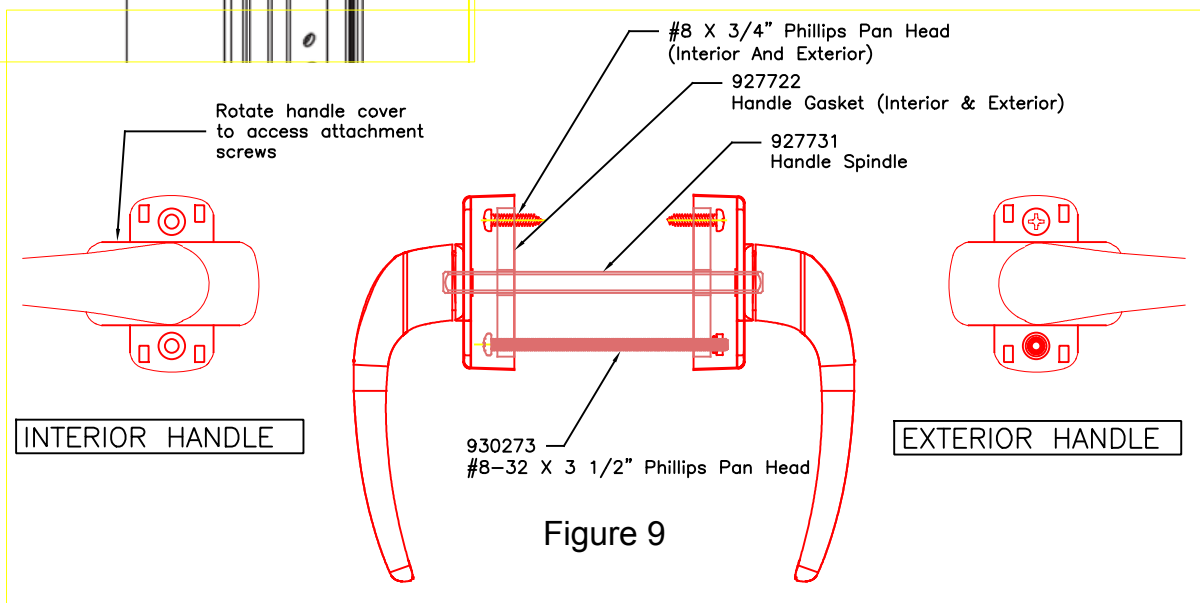

Figure 9
E. Rotate the handle cover and attach the handle to the door rail with the provided screws as shown in figure 9.